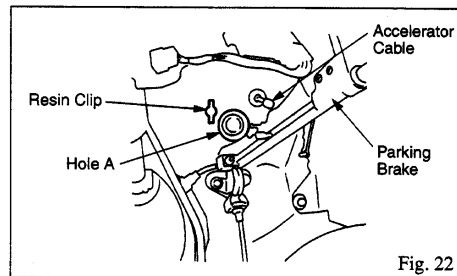

Fig. 22
(1) Remove the resin clip. (Fig. 22, 23)